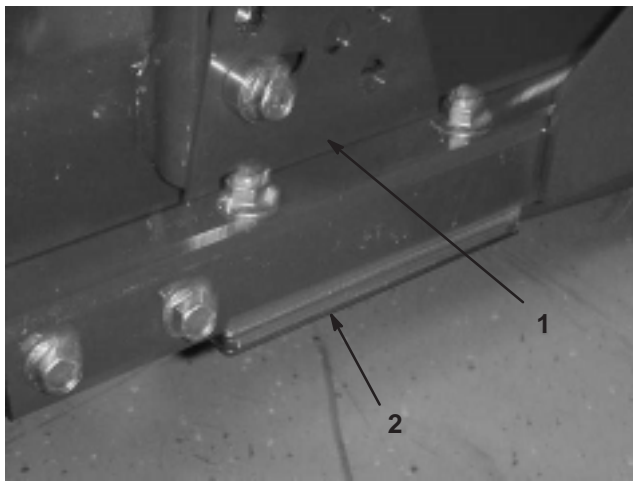

Figure 11
1. Remove height-of-cut bracket, (front, left, or right) from deck frame (Fig. 11).
2. Adjust .06 in. shims and/or .03 in. shim between the deck frame and bracket to achieve the desired height setting (Fig. 11).